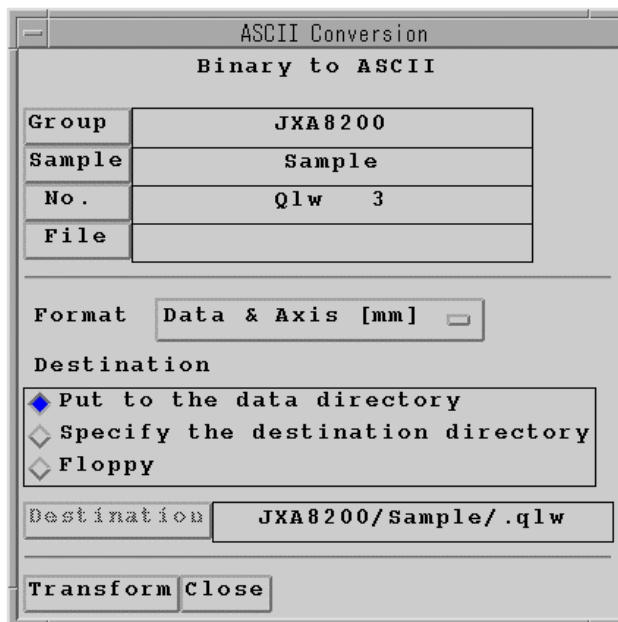

Fig. 5 Binary to ASCII window
The Binary to ASCII window opens as shown in Fig. 5.
6. Click on the **File** button in the Binary to ASCII window (see Fig. 5).
8. Select the format into which to convert the data, using the **Format** selection buttons (☞ Fig. 5).
9. Specify the destination directory, using the **Destination** selection buttons (☞ Fig. 5).
10. Click on the **Transform** button in the Binary to ASCII window (☞ Fig. 5).